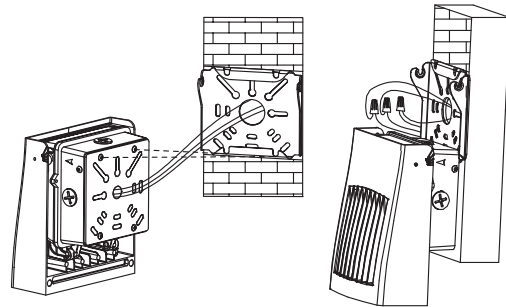

Figure 7
- Using the 2 top back hanging screws of the fixture, temporarily hang the fixture on the bottom hooks of the mounting plate to safely make appropriate electrical connections by following the wiring diagram, use electrical connectors. Carefully tuck all the wires and connectors into the J-box. (Figure 7).